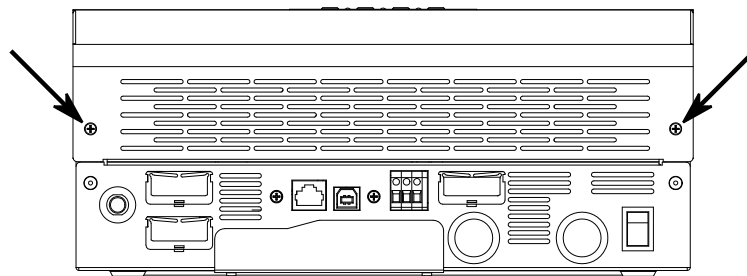

Figure 1: Screw location on bottom cover
1. Before the kit can be installed, please take off bottom cover by removing the two screws shown in *Fig. 1* and pulling the cover off toward the bottom of the inverter to expose the terminals.